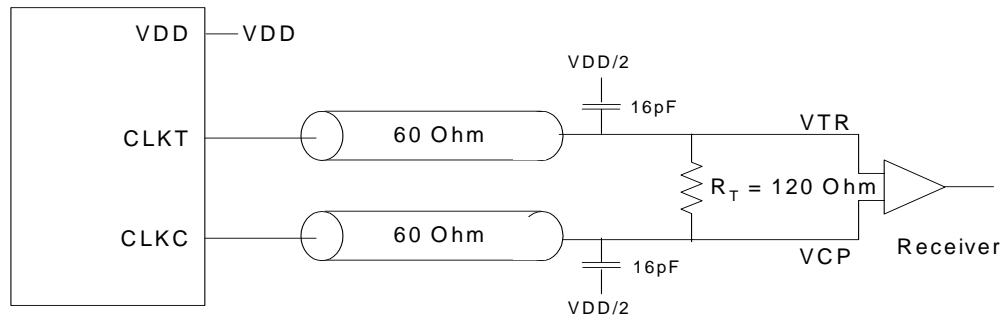

Figure 6. Differential Signal Using Direct Termination Resistor
- For load conditions see Figure 6.
- The value of V_{OC} is expected to be $|V_{TR} + V_{CP}|/2$. In case of each clock directly terminated by a 120 Ω resistor. See Figure 6.
- All outputs switching loaded with 16 pF in 60 Ω environment. See Figure 6.
- All differential input and output terminals are terminated with 120 Ω /16 pF as shown in Figure 6.